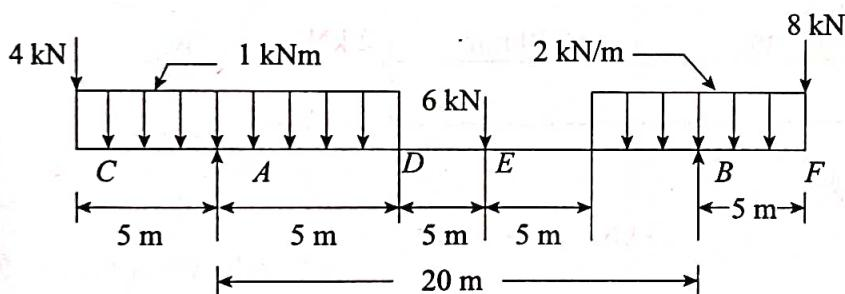

Figure 6.20
6.6 For the loaded beam shown in Fig. 6.20. Draw SF and BM diagrams and indicate all principal values on both diagrams. Also find maximum bending moment and its position.